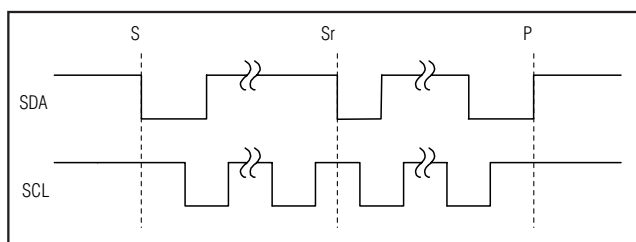

Figure 5. START and STOP Conditions
The master initiates a transmission with a START condition (S), a high-to-low transition on SDA while SCL is high. The master terminates a transmission with a STOP condition (P), a low-to-high transition on SDA while SCL is high (Figure 5). A repeated START condition (Sr) can be used in place of a STOP condition to leave the bus active and the mode unchanged (see HS-mode).